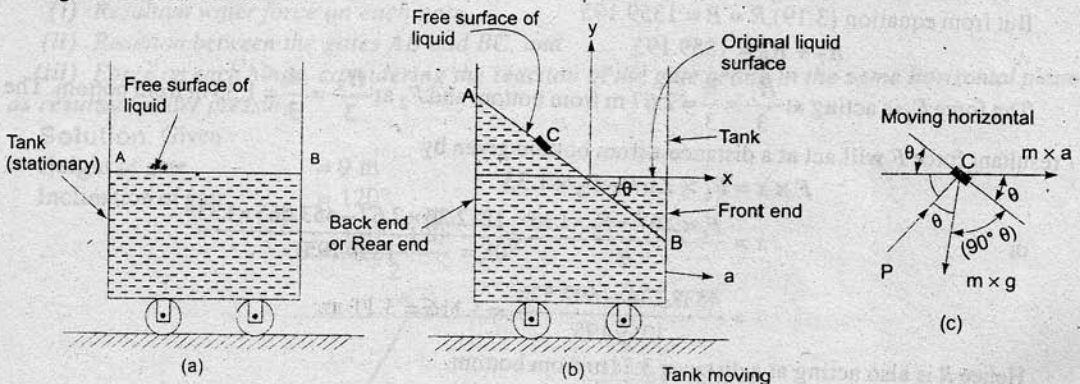

Fig. 3.43
3.8.1 Liquid Containers Subject to Constant Horizontal Acceleration. Fig. 3.43 (a) shows a tank containing a liquid upto a certain depth. The tank is stationary and free surface of liquid is horizontal. Let this tank is moving with a constant acceleration 'a' in the horizontal direction towards right as shown in Fig. 3.43 (b). The initial free surface of liquid which was horizontal, now takes the shape as shown in Fig. 3.43 (b). Now AB represents the new free surface of the liquid. Thus the free surface of liquid due to horizontal acceleration will become a downward sloping inclined plane, with the liquid rising at the back end the liquid falling at the front end. The equation for the free liquid surface can be derived by considering the equilibrium of a fluid element C lying on the free surface. The forces acting on the element C are :